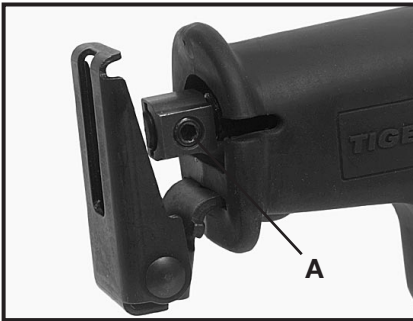

Fig. 5
1. Use hex wrench (supplied with Model 738), to loosen blade clamp screw (A) Fig. 5, by turning counterclockwise three to four turns.